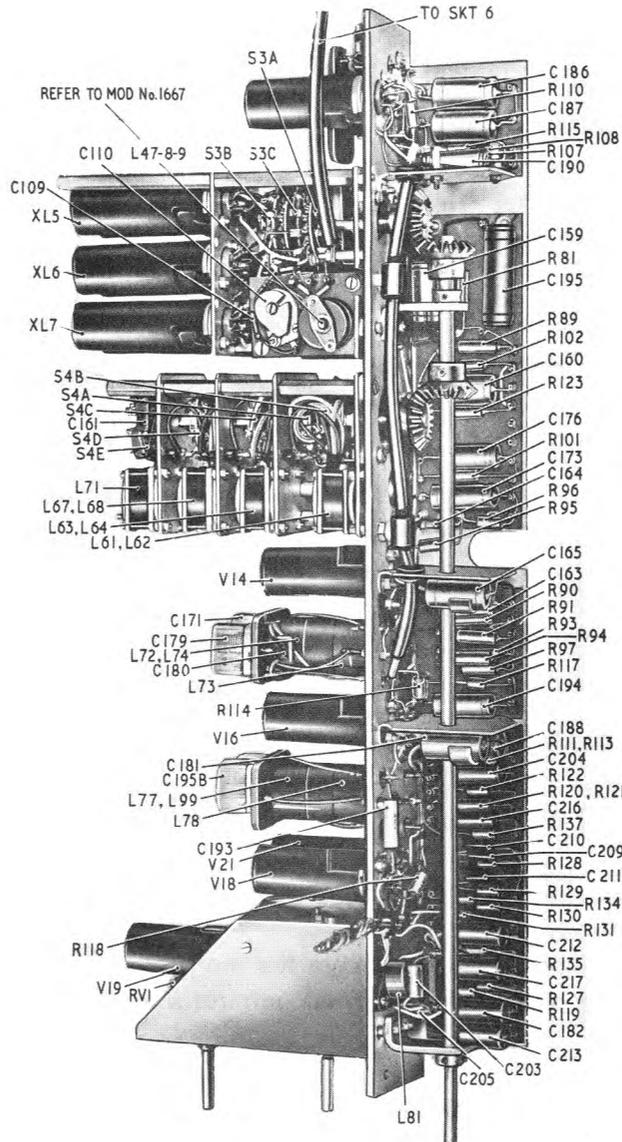
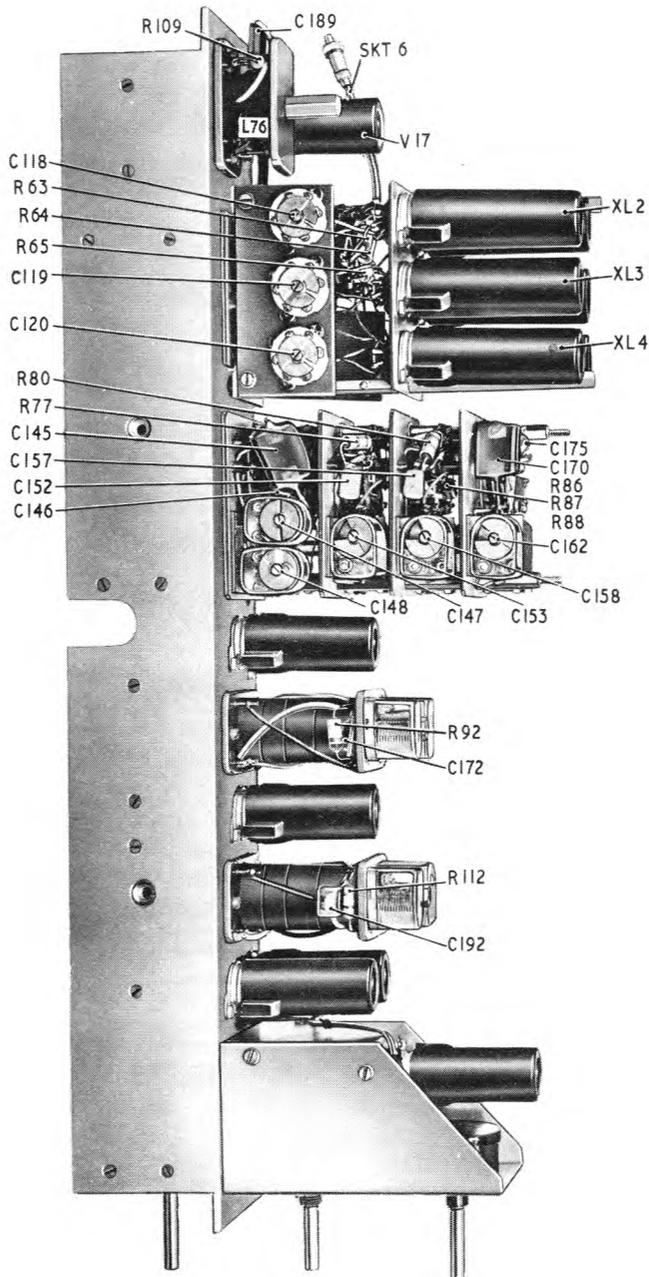

Fig.1 100 kc/s IF amplifier - right side
Fig. 2. 100 kc/s IF amplifier—left side
12. Locate capacitor C195B (fig.1) and adjust it for a peak reading in the RF LEVEL meter.
15. Connect a 4.7 kilohm resistor across L72 (fig.1) pins 3 and 4.
17. Locate trimming capacitor C179 (fig. 1) and adjust it for a peak reading in the RF LEVEL.
21. Locate the trimming capacitor C171 (fig. 1) and adjust it for a peak reading in the RF LEVEL meter.
53. Retune the signal generator to the mean of f_1 and f_2 and adjust capacitors C110 (fig. 1) and C148 (fig. 2) for maximum output.
65. Repeat the procedure in para. 52 to 63 with signal generator frequency settings of 101.025 kc/s, 100.9 kc/s and 99.1 kc/s respectively. Adjust phasing capacitor C119 only (fig. 2). The 6dB points should be between 270 and 330 c/s apart and deviation of the mean from 100 kc/s should not exceed 25 c/s. The sensitivity should be approximately 200 μ V and 100 μ A deflection.
67. Repeat the procedure in para. 52 to 63 with signal generator settings of 100.925 kc/s, 100.8 kc/s and 99.2 kc/s. Adjust phasing capacitor C118 only (fig. 2). The bandwidth should be between 80 and 120 c/s and the deviation from the mean less than 25 c/s. For 100 μ A output the input should be approximately 150 μ A.